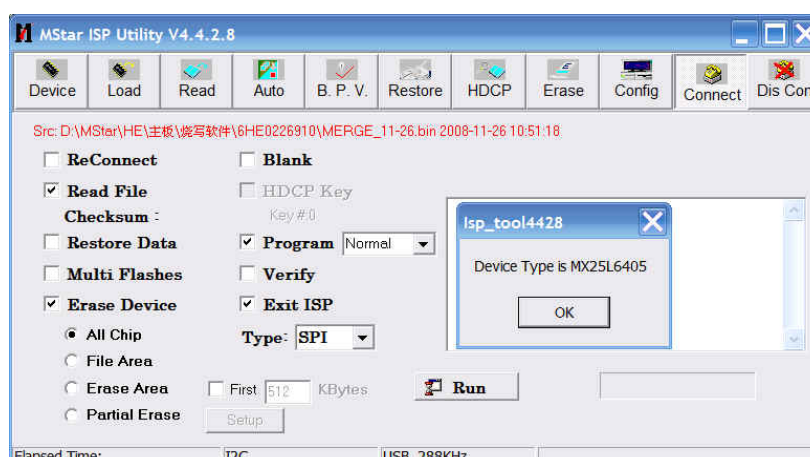

Fig. 3 Successful connection to device **MX25L64**
- 3) Press menu “**Connect**”, a dialog box “**Device Type is MX25L64**” will pop up, that is, connection has been successful, please refer to Fig. 3;